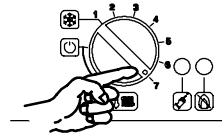

Fig. 2.5
The output temperature of c.h. water is adjustable from a minimum of about 38°C to a maximum of about 85°C (Fig. 2.5), by turning the function selector (7).